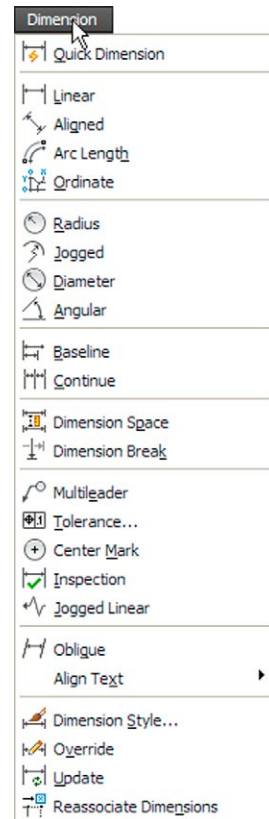

Fig. 6.2 Dimensions in the drop-down menu
2. Click **DIMENSION** in the menu bar. Dimension tools can be selected from the drop-down menu which appears (Fig. 6.2).